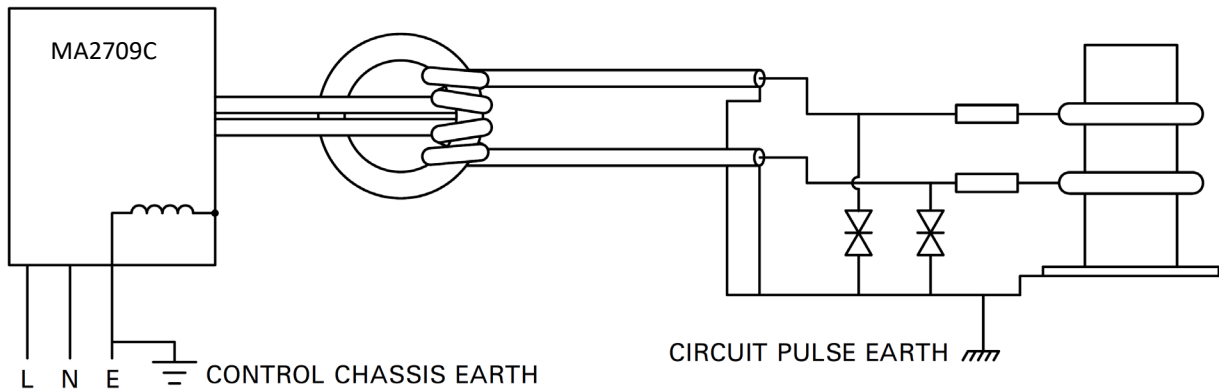

Fig. 1 MA2709C remote from the Thyatron discharge circuit.
- Earthing of the MA2709C is via the coaxial SHV BNC outer braids. The outer terminal of the trigger input BNC socket is also connected to the box and it may be necessary to use a ferrite core to minimise earth currents flowing along the input coaxial cable. See Figs. 1 and 2 for practical earthing considerations when fitting the MA2709C into a circuit.
The filtered mains input socket connects the mains earth to the MA2709C metal case via a 400 μ H inductor. Ferrite beads or cores or strip-wound cores can be used to provide effective pulse isolation as indicated in Figs. 1 and 2.